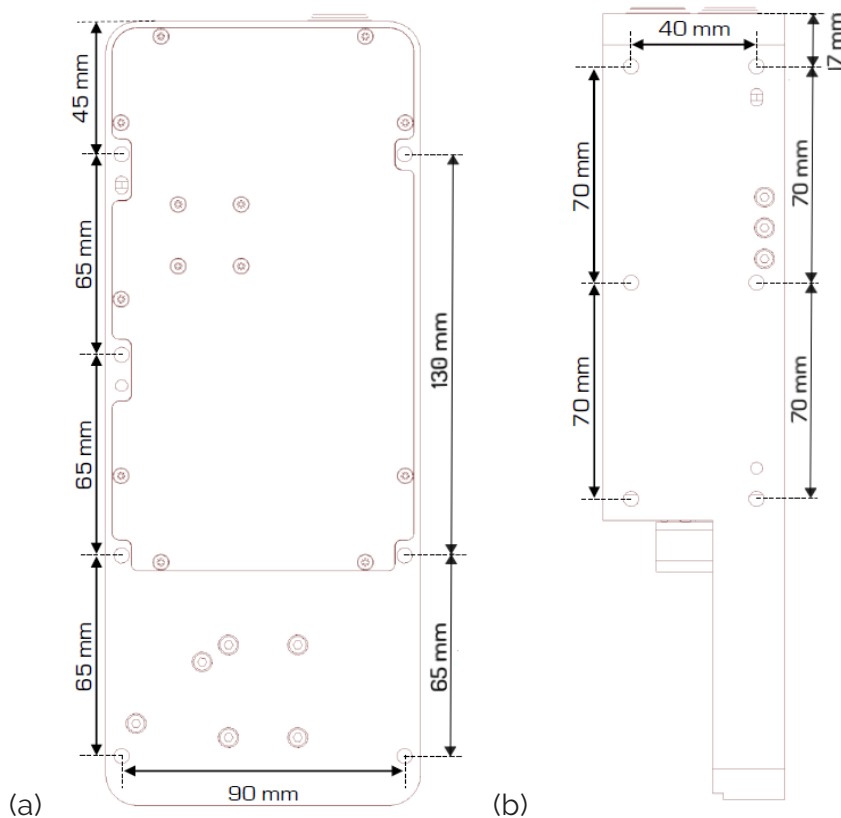

Figure 7: Dimensions of the heliInspect™ H8 housing body
- b. Prepare the drill pattern according to the dimensions in Fig.7
- (+) on the back of the housing body. The screw connections have an M6 inner thread. The maximum screw depth is 8 mm (» Fig. 7 (a))
- (+) on the side of the housing body. The screw connections have an M6 inner thread. The maximum screw depth is 8 mm (» Fig. 7 (b))